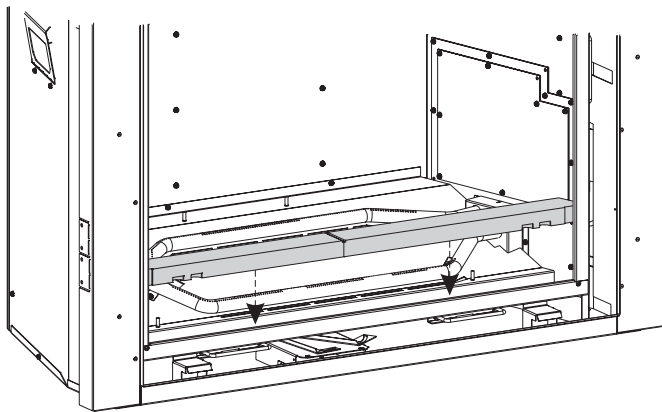

Figure 1
2. Place the RIGHT and LEFT FLOOR as (Shown In Figures 1 or 2).